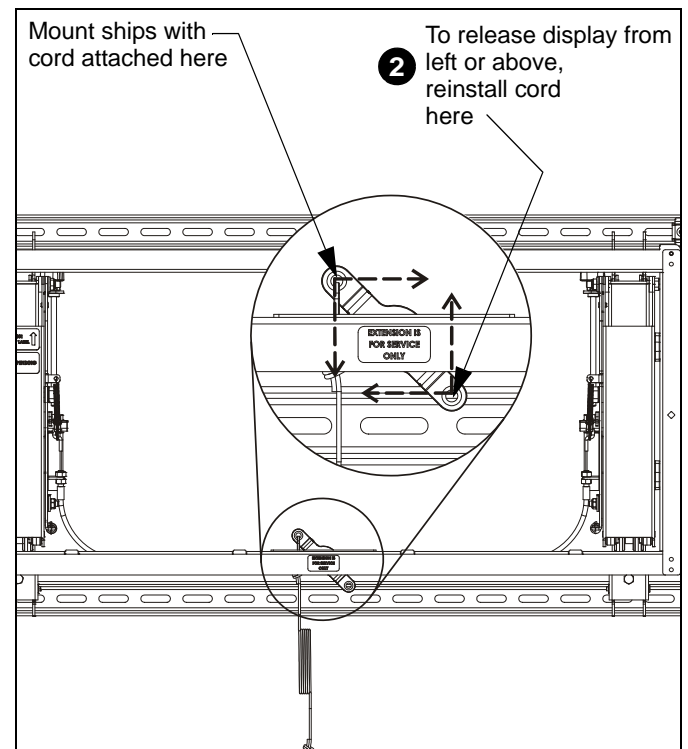

Figure 25
1. Unhook the pull cord from the mount. (See Figure 25)
2. Reinstall the pull cord in the opposite hole on the mount. (See Figure 25)